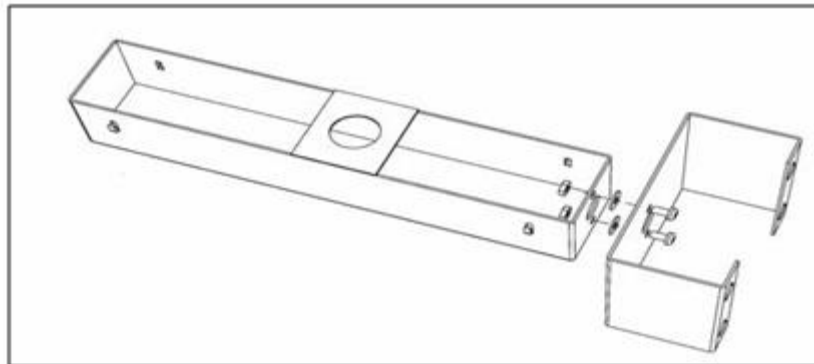

Figure 9: Digital Clock Mounting Kits
3. Join the Ethernet Clock Mount and the Ethernet Clock Cantilever Wall Mount using a #2 Phillips screwdriver and a  $\frac{3}{8}$ " wrench. Make sure that the two washers are fitted between the Clock Mount and the Cantilever Wall Mount. Refer to Figure 9.